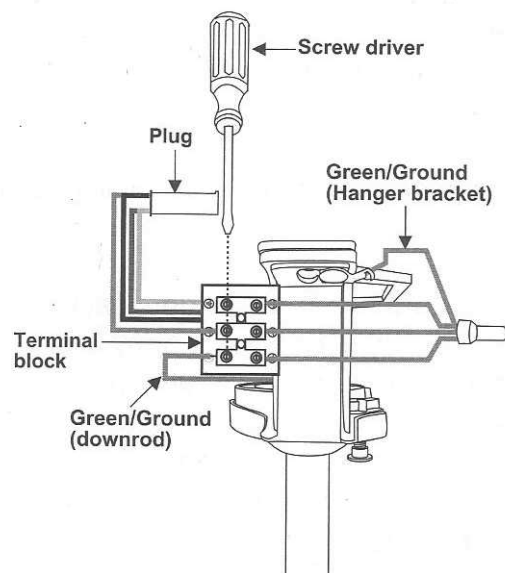

Figure 11
1. Connect the green/ground wire from the downrod ball to the terminal lock. (Fig.11)